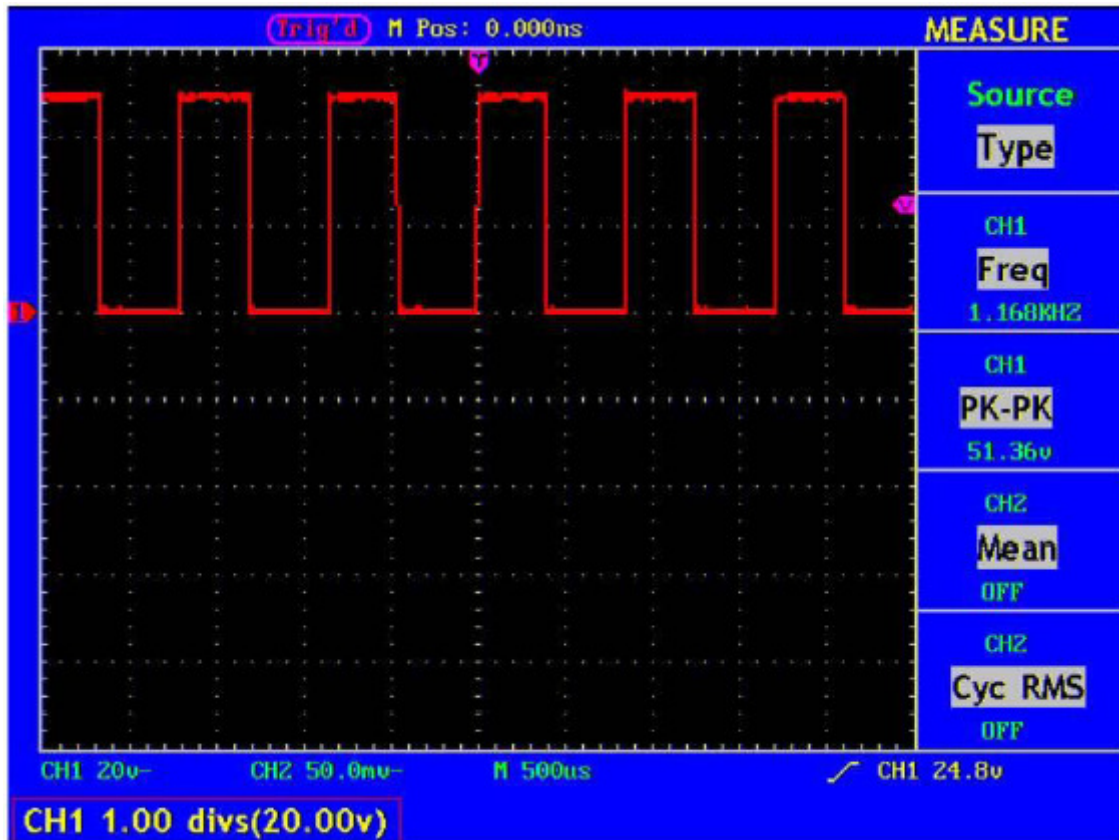

Fig. 24 Information about Vertical Position
3. When the vertical position of the channel wave form is adjusted, the screen shows the information concerning the vertical position at the lower left corner (see Fig.24).